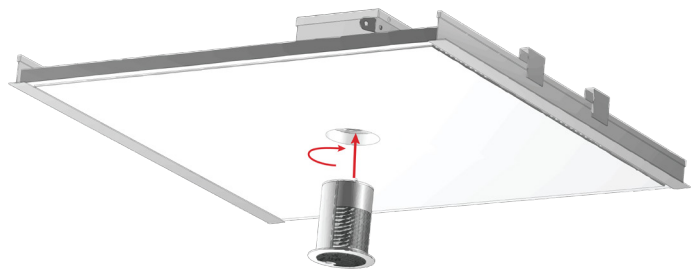

Figure 12.
8. Attach the wiring and install the emitter in the conduit mount through the ceiling tile as shown in Figure 12.